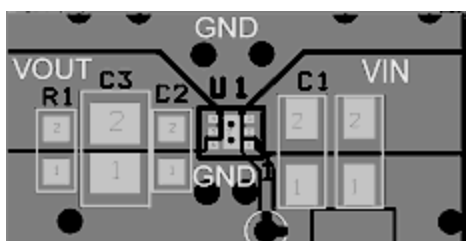

Figure 20: Proper layout of output, input and ground copper area
3. The  $V_{IN}$ ,  $V_{OUT}$  and GND pins will dissipate most of the heat generated during a high load current condition. The layout suggested in Figure 20 provides each pin with adequate copper so that heat may be transferred as efficiently as possible out of the device. The ON pin trace may be laid-out diagonally from the device to maximize the area available to the ground pad. Placing the input and output capacitors as close to the device as possible also contributes to heat dissipation, particularly during high load currents.